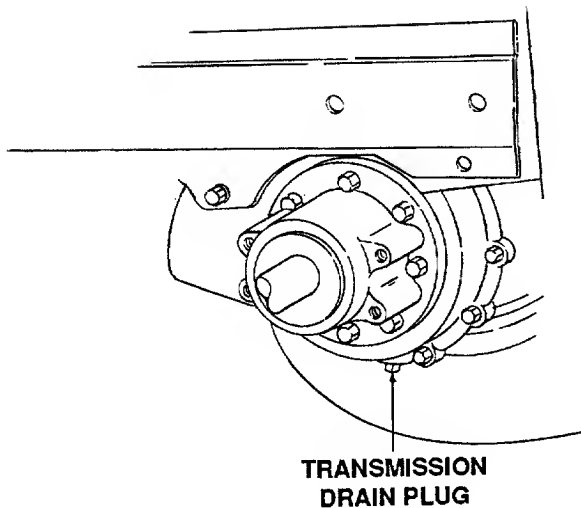

Figure 24
2. Clean the area around the transmission drain plug to prevent debris from entering the transmission case. Remove the drain plug and allow the transmission oil to drain into a clean container having a capacity of more than 7 quarts. Reinstall the drain plug (Refer to Figure 24).